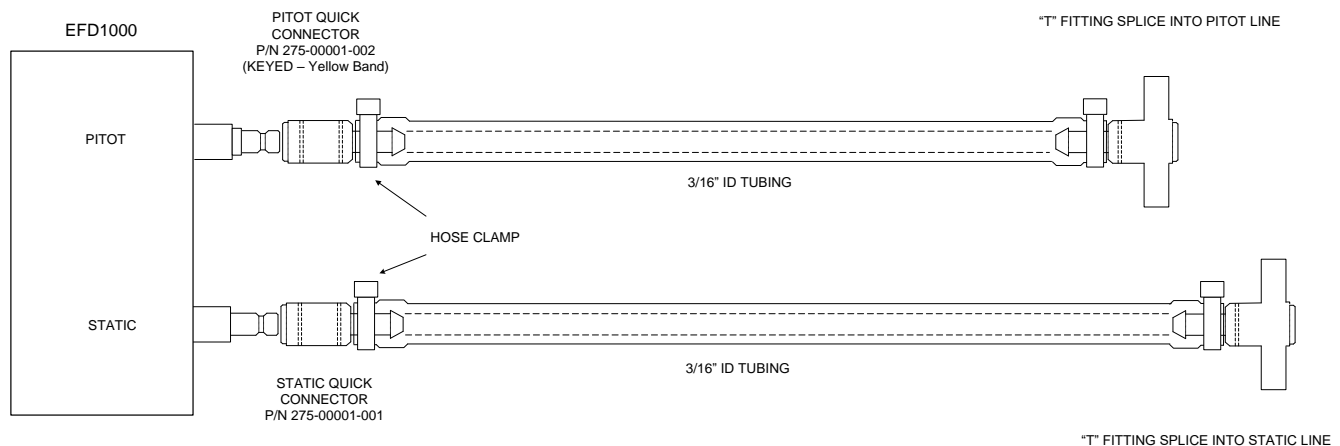

Figure 6-10: Pitot & Static Line Connections
- 6) Fabricate an 8" bonding strap from braid and two ground lugs. Attach one ground lug to a mounting screw on the backside of the panel (see Figure 6-10).
- 8) Tighten all six (6) mounting screws and nuts to 12 in-lbs. anchoring the bracket to the panel.
- 1) Insert "T" fitting into existing aircraft Pitot line and secure with the supplied hose clamp (see Figure 6-10).
- 3) Insert "T" fitting into existing aircraft Static line and secure with the supplied hose clamp (see Figure 6-10).